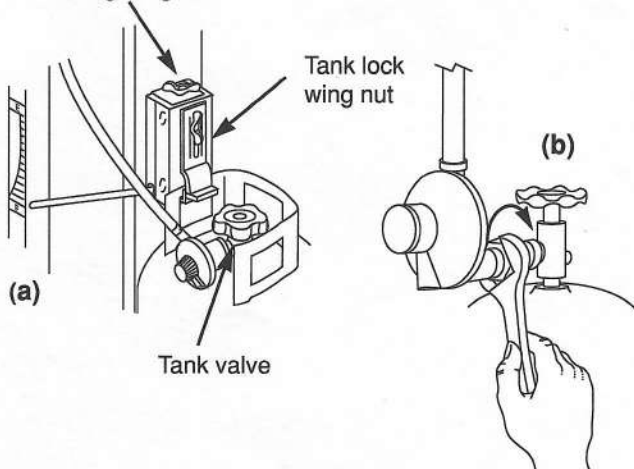

Figure 3
- 1) Close tank valve (turn clockwise). Figure 3 (a).
- 2) Use a 7/8 inch open-end or adjustable wrench to loosen the POL nut. Unscrew by hand. Figure 3 (b).
- b) Loosen the tank lock wing nut. Swing the tank lock down. Tighten the wing nut. Figure 3 (a).